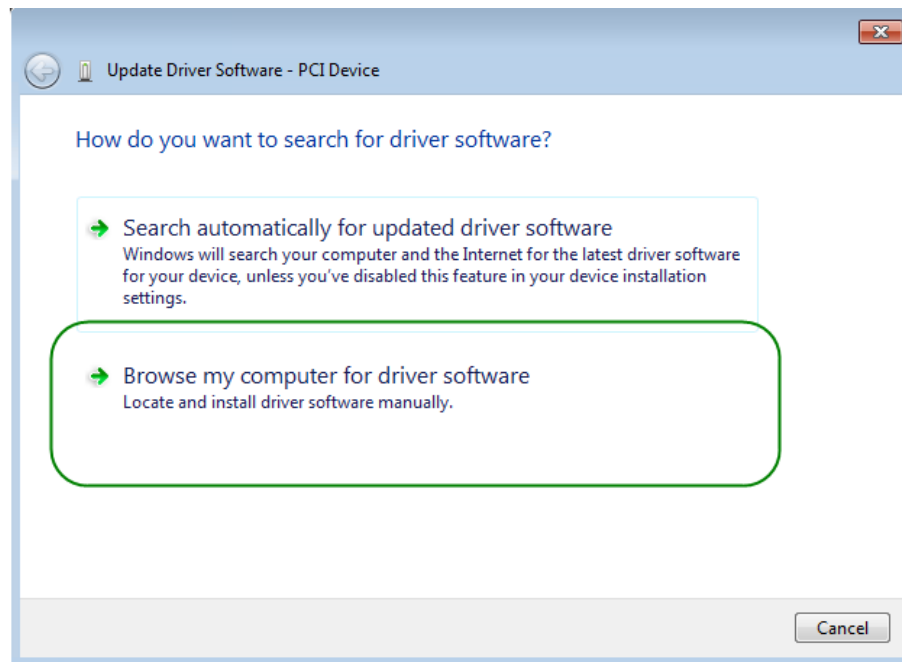

Figure 7-4 Dialog of Browse my computer for the driver software
6. In the **How do you want to search for the driver software** dialog, click **Browse my computer for driver software** item, as shown in **Figure 7-4**